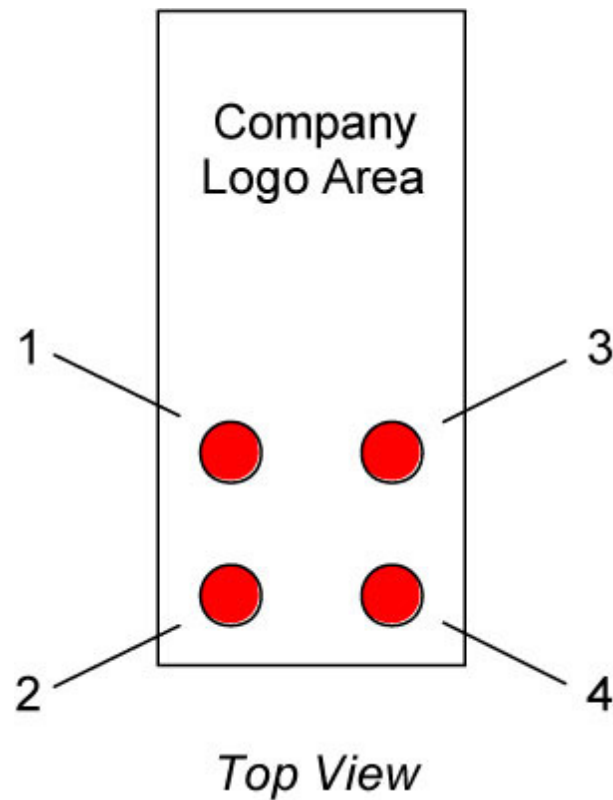

Figure 2-12
**CAUTION:** Modules usually include an LED to show the state of each relay. Unfortunately, not all modules clearly label each LED and the circuit associated with it. The diagram in **Figure 2-12** identifies the circuits in the quad-circuit modules in the OAC and ODC families of AC- and DC-output modules from Opto 22, and the 1781-OA5Q and 1781-OB5Q families from Western Reserve Controls.